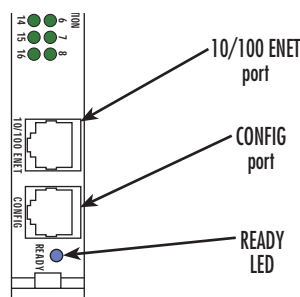

Figure 14. Model 3196RC interface ports
3. Connect the RJ45-RJ45 cable between the adapter which you installed in step 1 and the *RS-232 Config* port on the front of the Model 3196RC (see figure 14).